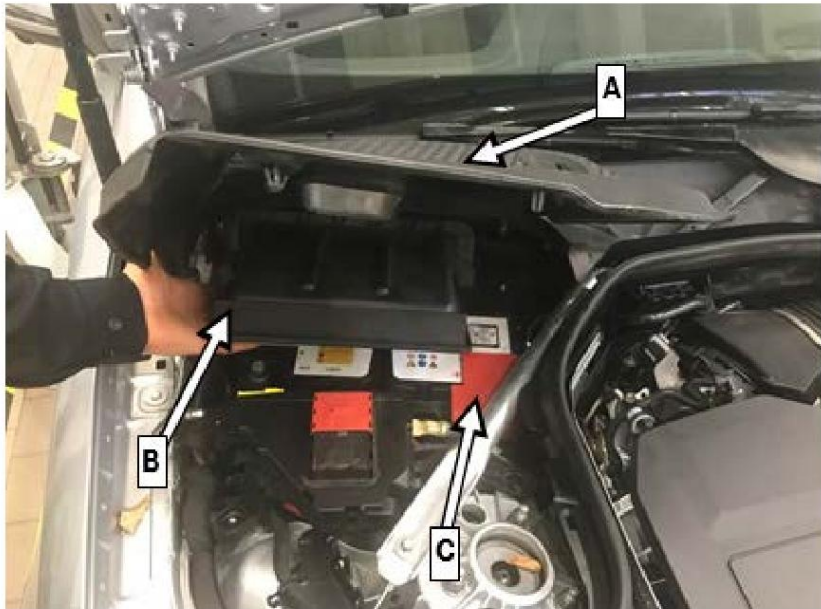

Figure 1
1. Lift cover (A, Figure 1).
2. Lift interior air filter (B, Figure 1).
3. Replace cover for positive pole (C, Figure 1) on starter battery.